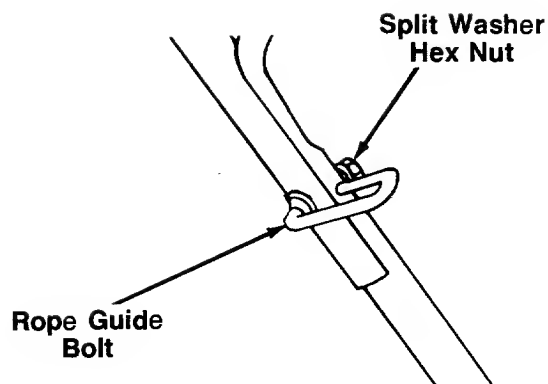

FIGURE 3.
4. **All other models:** Insert the rope guide bolt through the right hand side of upper and lower handle. See figure 3. Secure with split washer and hex nut, finger tight only.